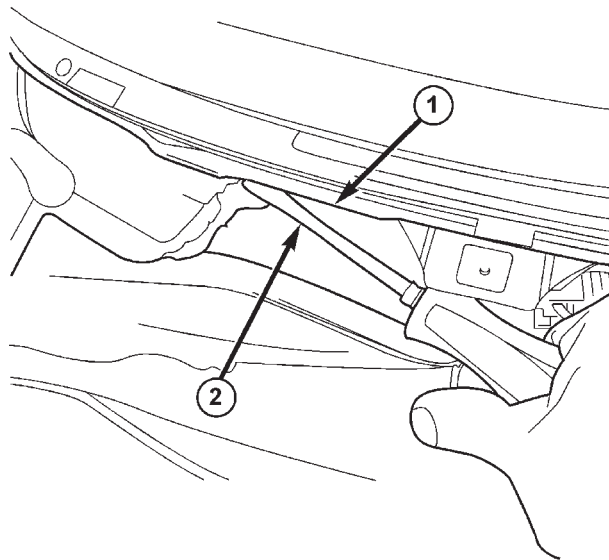

FIGURE 2
4. Use a screwdriver and bend the top of the cowl reinforcement panel down and away from the cowl top panel. A minimum clearance of 2.0 mm (.078 inch) should be obtained between the two panels (Figure 2).